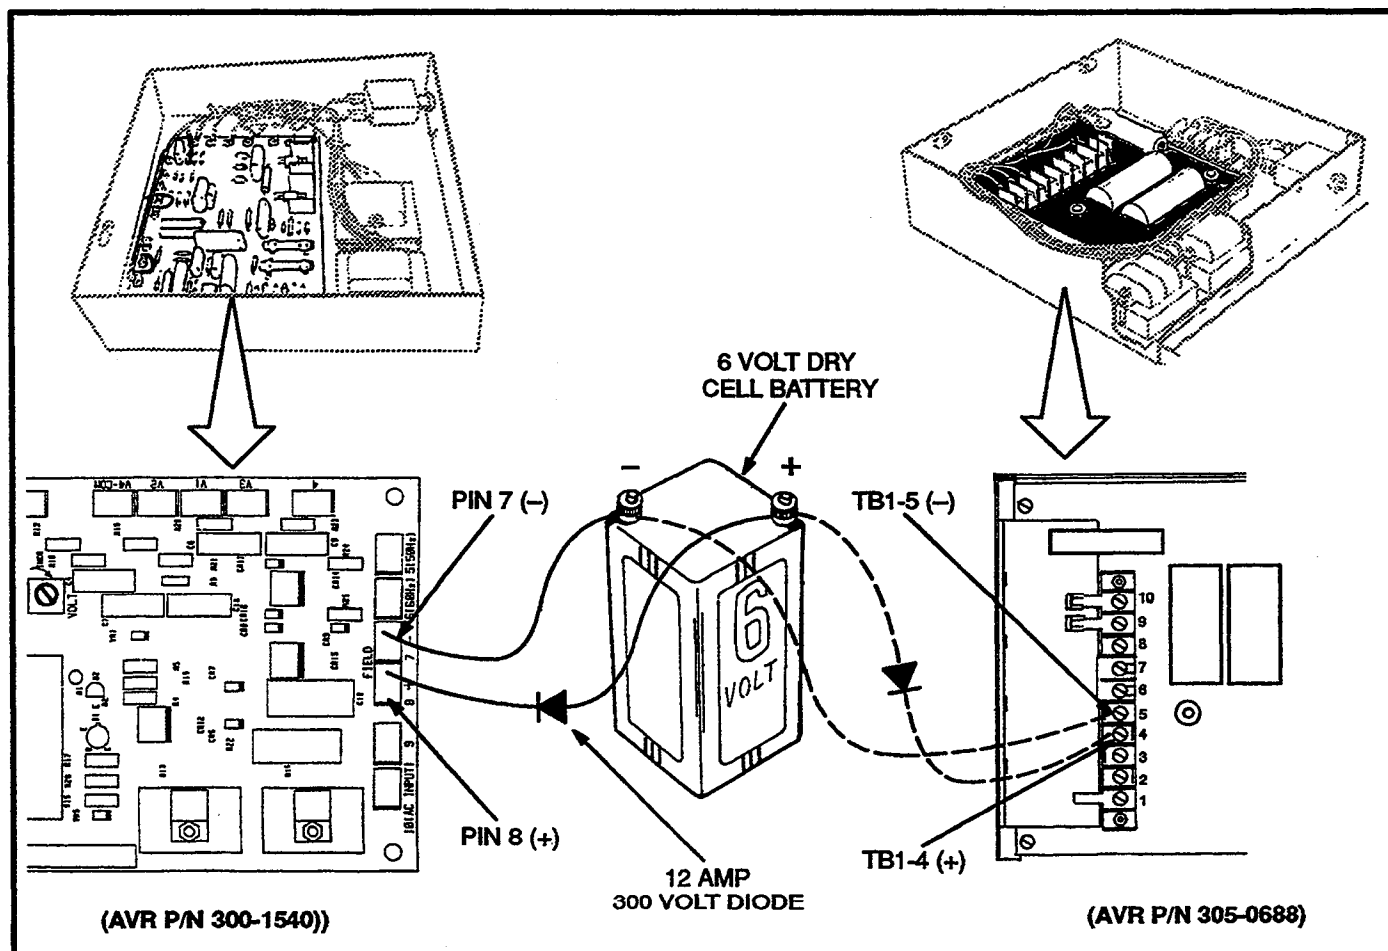

FIGURE 5-2. FLASHING THE EXCITER STATOR
1. There are two types of voltage regulators (VR21) that are available for this genset. Refer to Figure 5-2 to locate the appropriate terminals for battery lead connection.
2. Use a six volt dry cell battery with two clip leads and a 12 amp., 300 volt diode as shown in Figure 5-2. If a six volt battery is not available, a 12 volt automotive battery can be used by adding a 20-ohm resistor in series; or a 24 volt automotive battery can be used by increasing the resistance to 40-ohms.